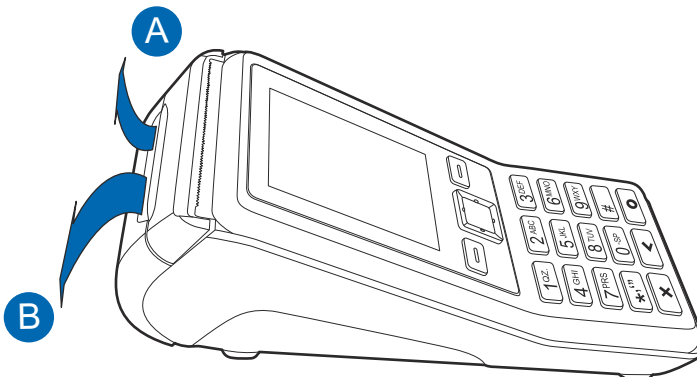

Figure 6 Opening the Printer Cover
- Installing a paper roll** 1 Hook your finger under the latch and lift up to swing the paper roll cover open (see Figure 6).